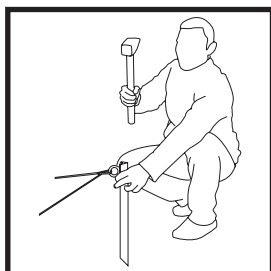

Fig. 6
8. Stretch the rope with the anchor number 1 and put it vertically to the ground to define the place of the first angle. Make sure the rope is taut then drive the anchor into the ground (Fig. 6). When setting up a tent with 2 or more poles, the assembly point number 1 must be in a straight line with the poles connecting line.